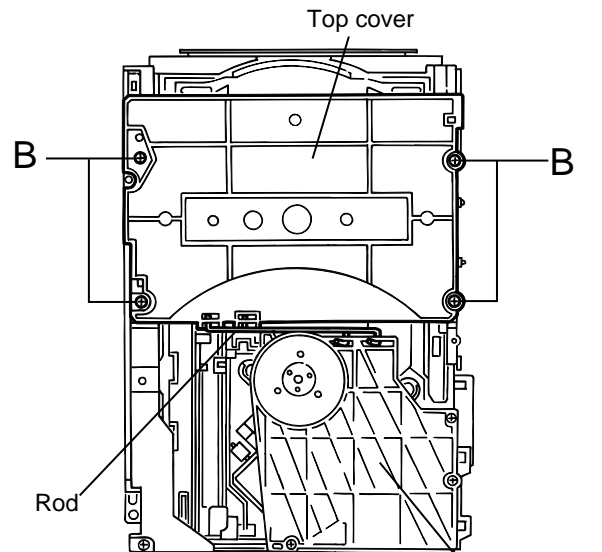

Fig.5
■ Removing the tray select switch board (See Fig.5,6 and 23)